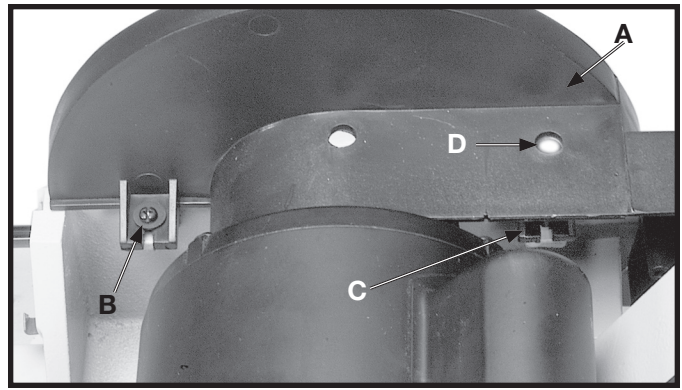

Fig. 5
2. Position the guard (A) Fig. 5, in place on the disc unit frame and fasten in place using the two M4x.07x10mm cheese head screws (B) and (C) and two 3/16" flat washers. **DO NOT COMPLETELY TIGHTEN SCREWS (B) AND (C) AT THIS TIME AS THE GUARD MUST BE ADJUSTED TO SANDING DISC PLATE.** NOTE: Access to screw (C) is through hole (D) in top of guard.